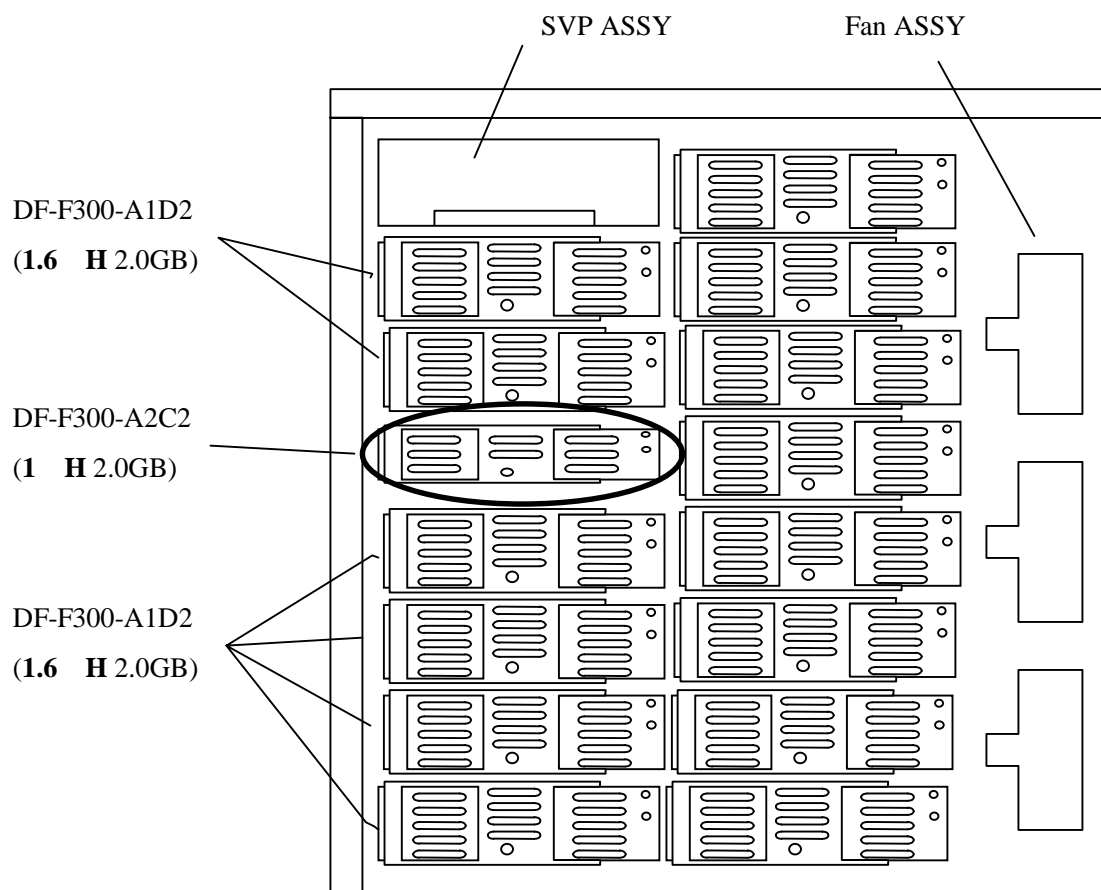

Figure 2 Example of Drive Mixture
- (1) The models which have the same capacity have the same function and performance with regard to the maintenance canisters of DF300.
- (2) In case of maintaining DF300, different canisters which have the same capacity can be used in the same row. For example, when drive regressing occurs in the row composed of DF-F300-E1D2, both canisters, DF-F300-A1D2 and DF-F300-A2C2 can be used for replacing HDU ASSY(Refer to the table). The capacity of these canisters is the same so that it is possible to compose the subsystem shown in Figure 2. That goes between DF-F300-A1C4 and DF-F300-A2C4, too.